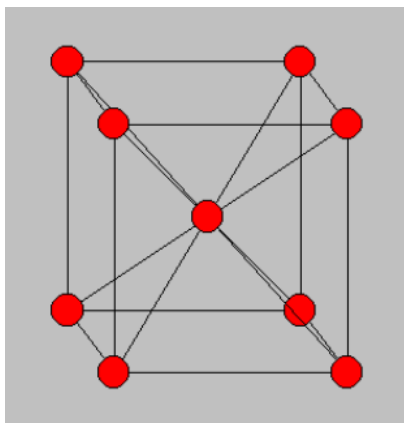

Figure 2.2: BCC unit cell in real space.
**BCC Lattice Nearest Neighbor:** Looking at the bottom left corner atom of Fig. 2.2, the nearest neighbor is the central atom, which is a distance  $a/2$  away in the x, y, and z directions, so: